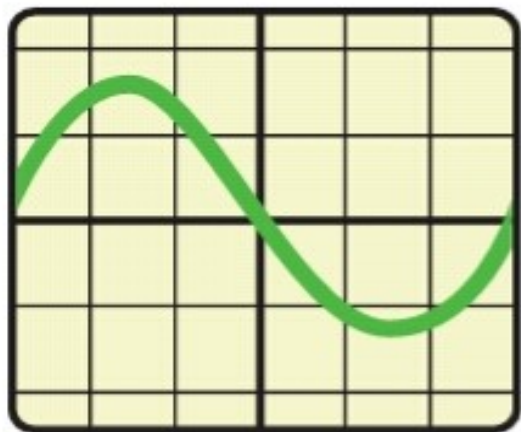
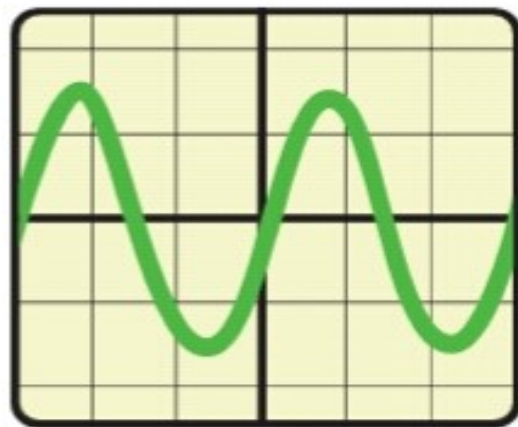

Figure 5.8a (50 Hz).
Figure 5.8b (unknown).
- The Known signals is applied to the CRO and the time base adjusted so that one complete wave appears on the screen (In figure 5.8a) .The known signals is then applied in place of the known signals ,with out alternating any of the CRO controls and the trace on the screen is studied (figure 5.8b)